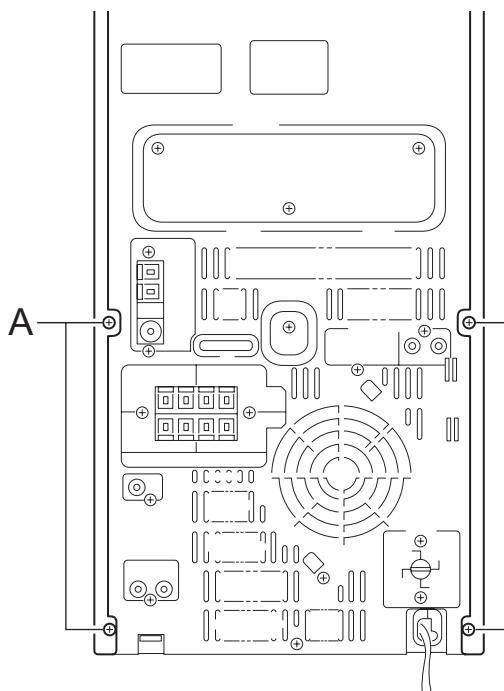

Fig.1
2.1.1 Removing the metal cover (See Fig.1~3)